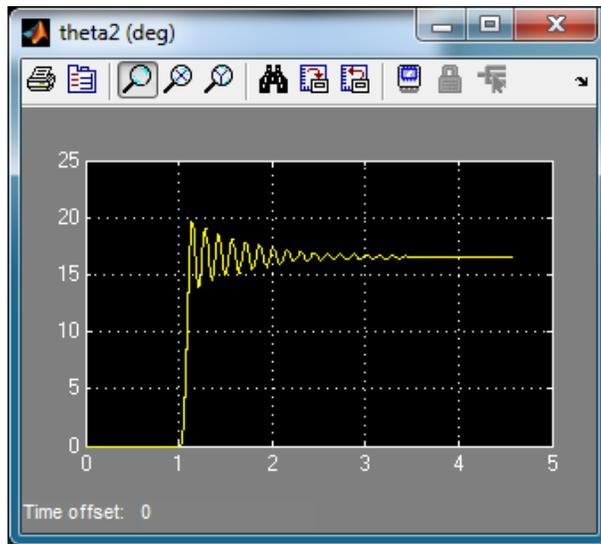

Figure 2.4: Typical Torsion Free Oscillation Response
2. Go to QUARC | Start to run the controller. The servo should begin tracking the reference angle. The  $\theta_1$  ( $deg$ ) and  $\theta_2$  ( $deg$ ) scopes should be reading a response similarly as shown in Figure 2.4. Note that the controller is set to run for 5 seconds.